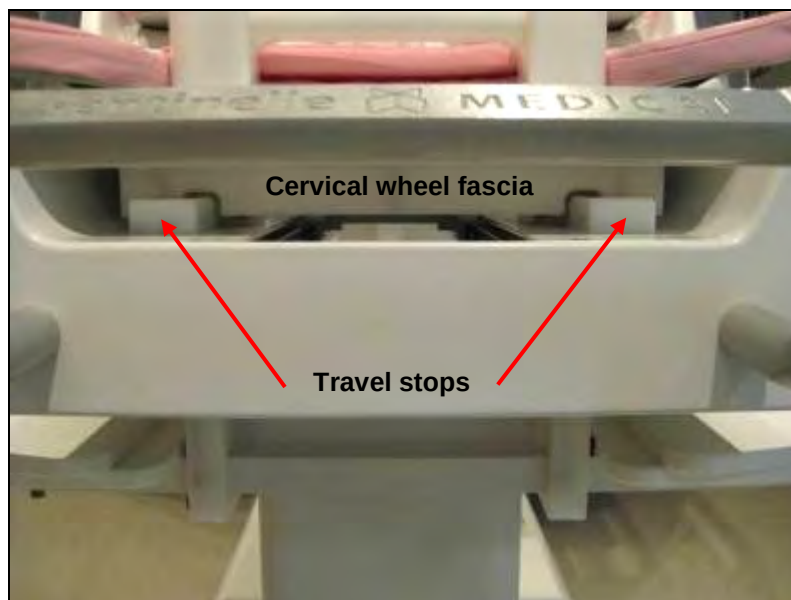

Figure 52
3. Push the UBS gently toward the foot end until the travel stop (Figure 52) on the patient left side of the UBS bottoms out against the patient support.
6. Ensure the UBS is centered left/right relative to the tabletop by looking at the travel stops position relative to the cervical wheel fascia (Figure 52).